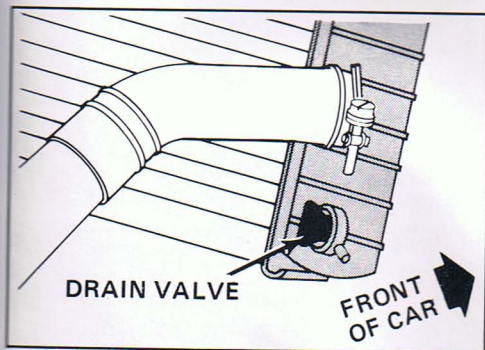

Figure 3 - Lower RH corner of radiator
6. Stop the engine. Open the radiator drain valve to drain the coolant. See Figure 3. Drainage may be speeded by removing the drain plugs in the engine block and in the left and right coolant pipes. The coolant pipes run underneath the car. The coolant pipe plugs are located at the rear of each